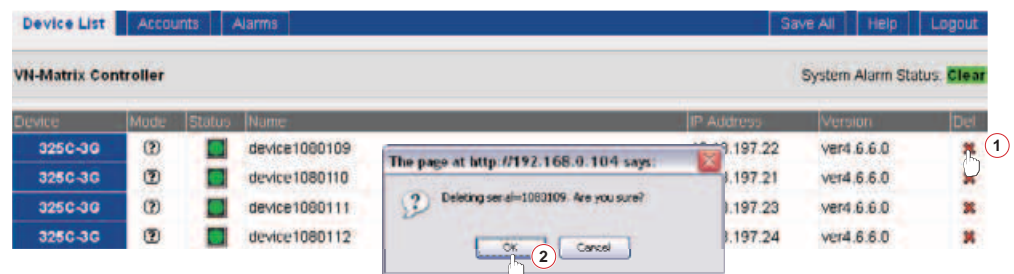

Figure 24. Removing a Device from the Network
1. Click the Delete icon (✖) for the device to be removed (see figure 24). A confirmation dialog box appears.